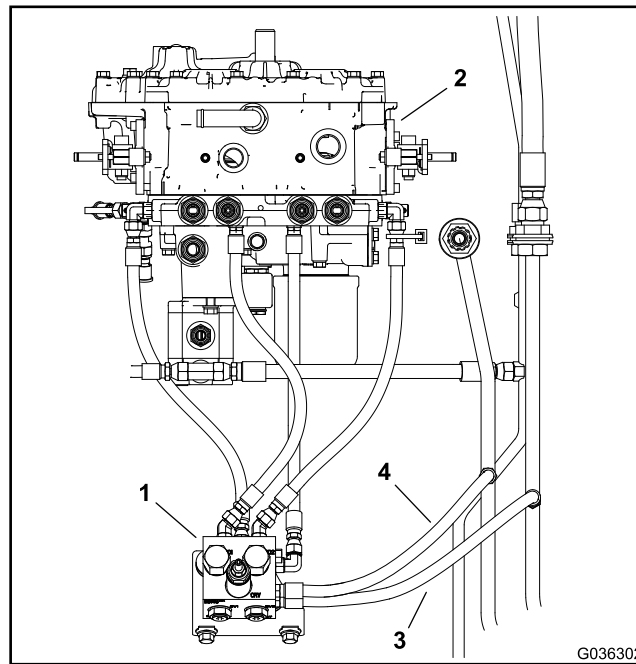

Figure 134
6. Disconnect the hydraulic hoses that are connected to the hydraulic fittings and ports on the traction manifold assembly (Figure 134).
Note: The hoses at the traction manifold assembly ports LR and RR should be disconnected at the hydraulic tubes before removal from the traction manifold assembly shown in Figure 134.
6. Use the labels that you attached during traction manifold assembly removal, correctly connect the hydraulic hoses to the traction manifold assembly and hydraulic tubes (Figure 134); refer to Installing the Hydraulic Hose and Tube \(O-Ring Face Seal Fitting\) \(page 4–8\).